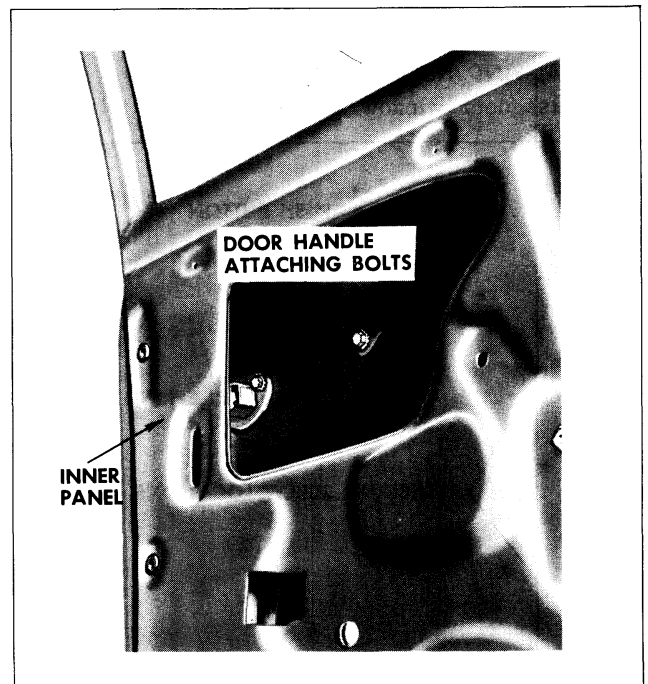

Fig. 12-7 Outside Handle Attachment
3. Remove screws through inner panel. Remove door handle and gaskets from outside of body (Fig. 12-7).